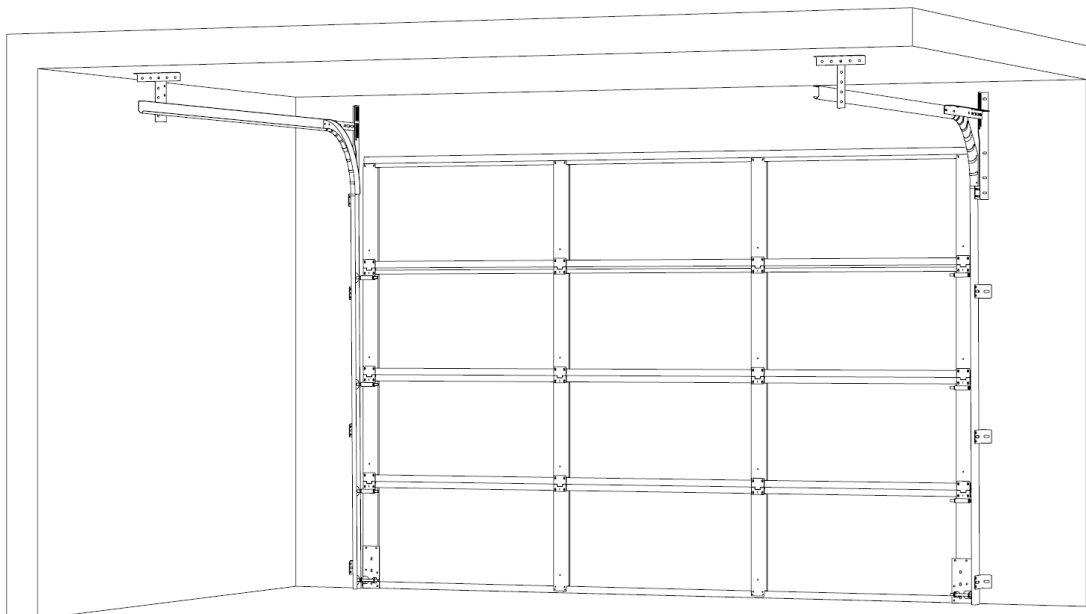

Figure 16
- b. Bolt track to polymer curve, and polymer curve to flag bracket, ensure horizontal tracks and vertical tracks are aligned and the horizontal is level. (Figure 16)